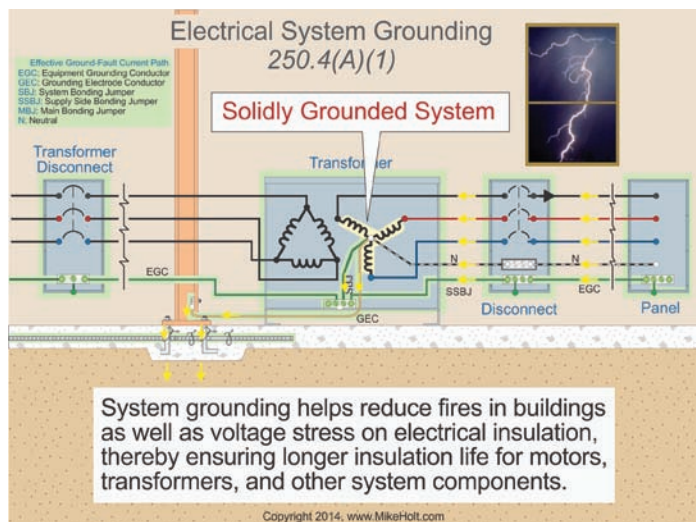

Figure 250-4
- System grounding helps reduce fires in buildings as well as voltage stress on electrical insulation, thereby ensuring longer insulation life for motors, transformers, and other system components. Figure 250-4